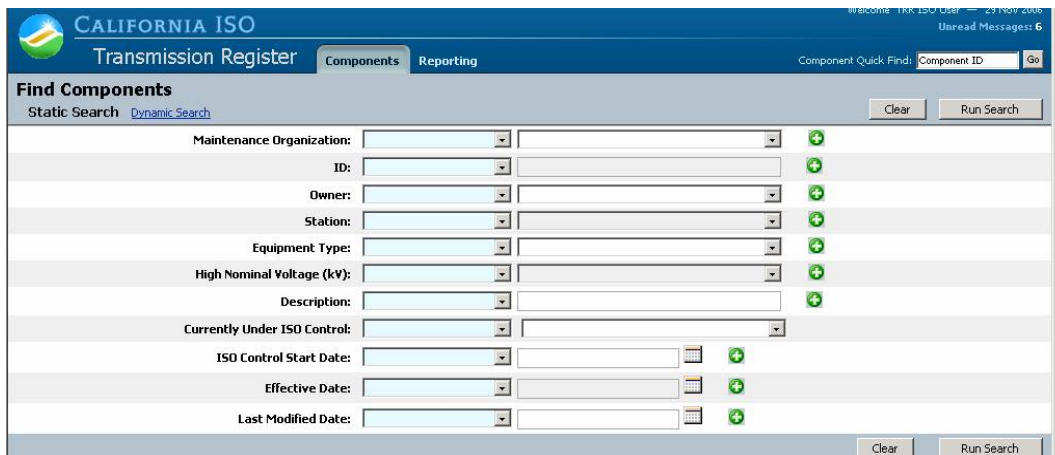

Figure 3. Static Search Screen
- **Click** on the Find Components hyperlink and the screen in Figure 3 appears.
The Search Type window provides the user with the ability to conduct the search using either a Static Search or a Dynamic Search. As shown in Figure 3, the application automatically defaults to the Static Search screen.